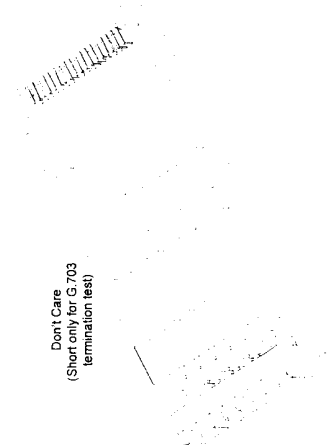

Fig.4-18 NS-620M11, G.703, 64Kbps, Data Interface Module
- M11: Contra-directional G.703 (64Kbps), Fig.4-18